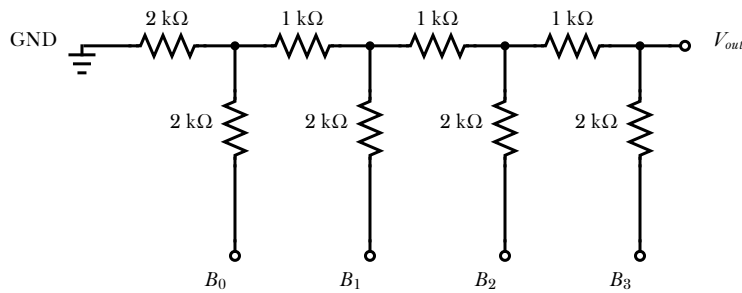

Figure 1: 4-bit DAC design.
A.2) $V_{out} = V_{ref} \cdot \left(\frac{B_3}{2} + \frac{B_2}{4} + \frac{B_1}{8} + \frac{B_0}{16} \right)$. See **Figure 1** for the circuit.